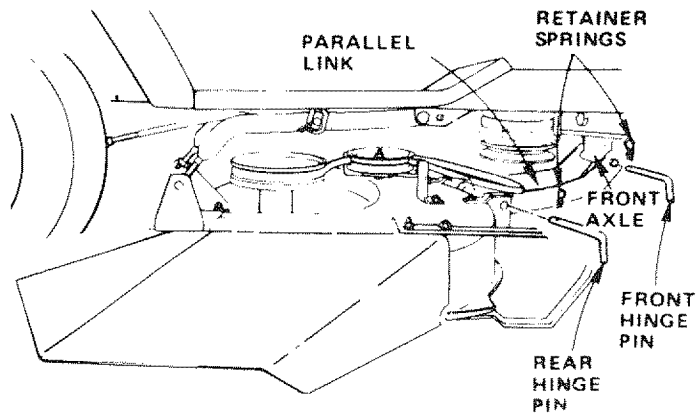

FIGURE 7
- c. Install front hinge pin through tractor axle and parallel link (Fig. 7). Secure with retainer spring. NOTE: SMALLER END OF PARALLEL LINK MOUNTS TO TRACTOR.
- d. Install rear hinge pin through mower lift brackets and parallel link (Fig. 7). Secure with retainer spring.
IMPORTANT: BEFORE DRIVING THE TRACTOR, INSTALL MOWER OR REMOVE MOWER PARALLEL LINK (SEE FIGURE 7).